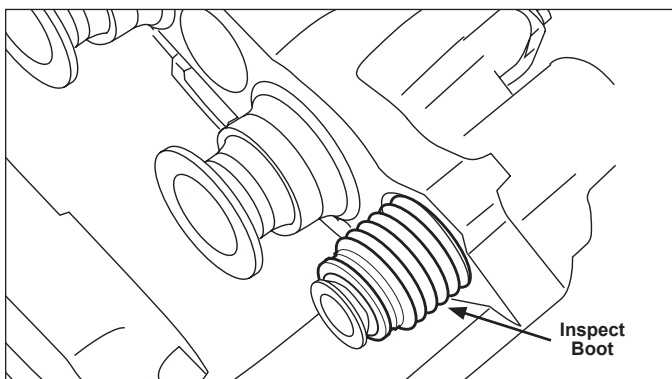

Figure 27 – Guide Pin Boot Inspection (This Image Does Not Show the Carrier)
3.5.4 See Figures 27 and 28. With the pads removed, slide the carrier by hand to the inboard position (See Figure 27). By looking through the opening where the pads are installed – and also from below – inspect the inner boot (9) for each of the guide pins. **INSPECT FOR DAMAGE, CUTS, AND CRACKS.** Replace damaged boots immediately to prevent dirt and/or moisture affecting the movement of the guide pins (See Section 4.4). Damaged or corroded guide pins will impair the operation of the brake.